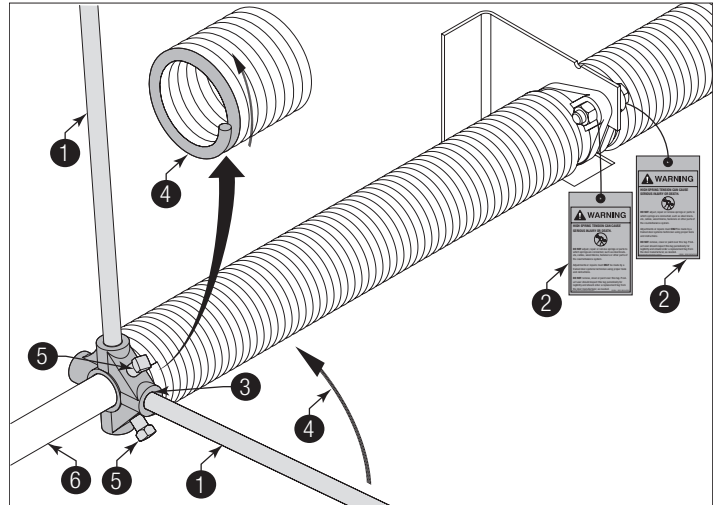

Figure 55
**PRIOR TO WINDING THE SPRING, ENSURE YOU'RE WINDING IN THE PROPER DIRECTION AS SHOWN IN FIGURE 55. OTHERWISE THE SPRING FITTING MAY RELEASE FROM SPRING AND RESULT IN SEVERE OR FATAL INJURY.**